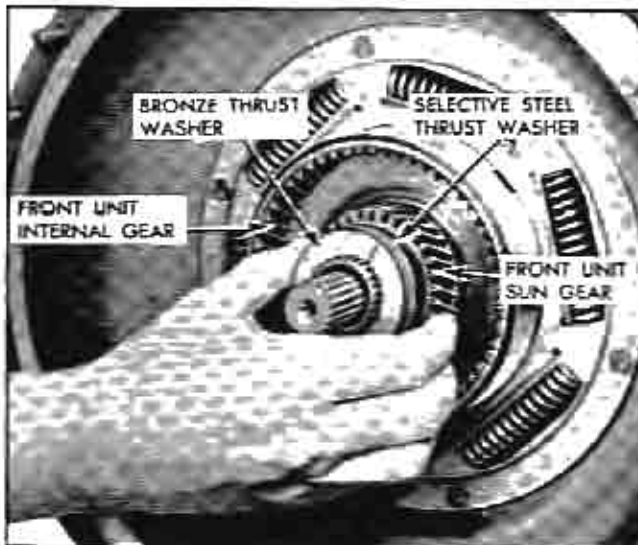

Fig. 48 Removing Sun Gear to Torus Hub Thrust Washers
10. Remove bronze thrust washer and steel selective spacer (front sun gear to torus hub) (Fig. 48).